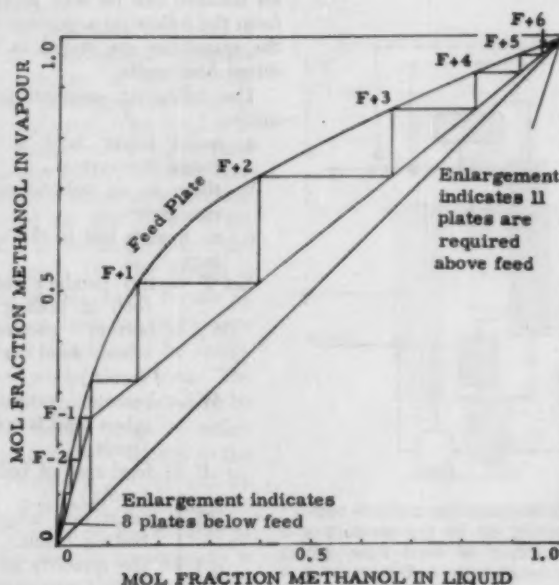

Figure 11. McCabe-Thiele diagram for methanol/water separation at 4:1 reflux ratio. Total of 20 plates.
The feed of 6.5 mol% methanol is separated at atmospheric pressure into a top product of 99.92 mol% methanol and a bottom product of 0.013 mol% methanol. The feed is at the boiling point, and a reflux ratio of 4:1 is chosen from economic considerations. The number of theoretical plates required on this basis is 20, with 11 plates above and 8 below the feed plate, Figure 11. The design is not complete at this stage, for no allowance has yet been made to cope with variations which must be anticipated under works conditions. The only allowance which can actually be made at the design stage is either change in reflux ratio or change in the number of plates. As pointed out by Harbert (4), it is more economical to make the allowance on the number of plates. In this section an estimate is made of the number of plates which must be allowed to deal with certain specified variations.